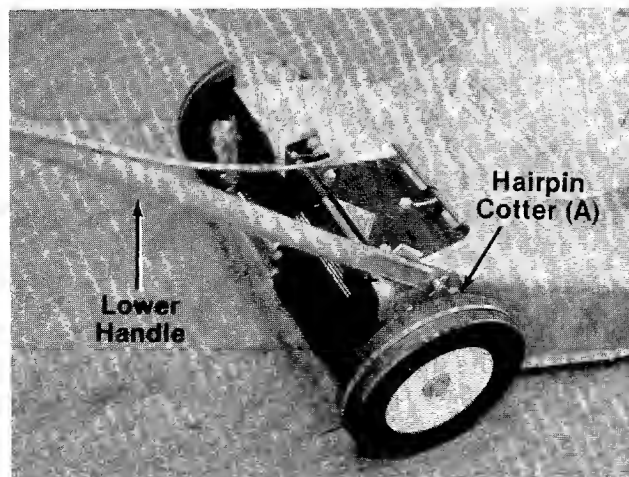

FIGURE 3.
Secure with hairpin cotters (A) in inner hole on weld pin. See figure 3.